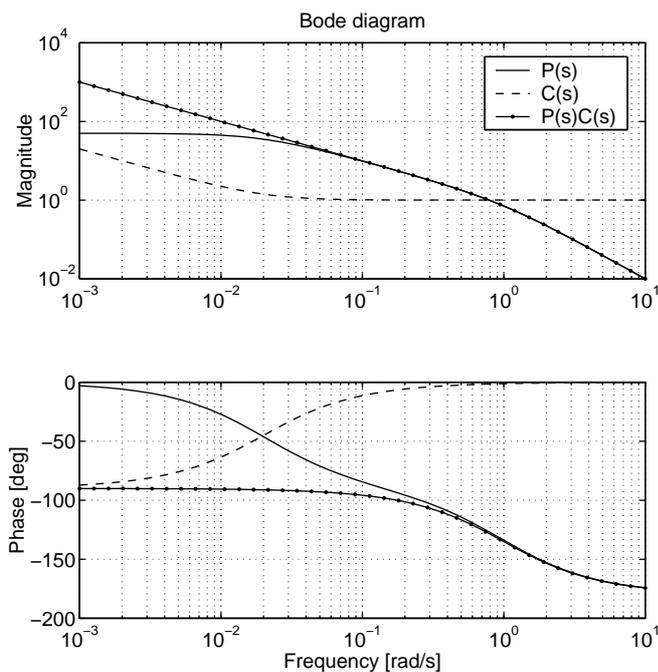

Figure 4.3 The Bode diagrams of $P(s)$, $C(s)$ and the open loop $P(s)C(s)$ when $a = 0.02$.
The Bode diagrams of the plant, the controller, and the open-loop system are shown in Figure 4.3.
- a. The load disturbance d is typically most significant at low frequencies, so we are interested in keeping the magnitude of the transfer function G_{yd} from d to y significantly smaller than 1 in a frequency range $[0, \omega_b]$. What is (approximately) ω_b if you use the given controller? Use the Bode diagram in Figure 4.3.